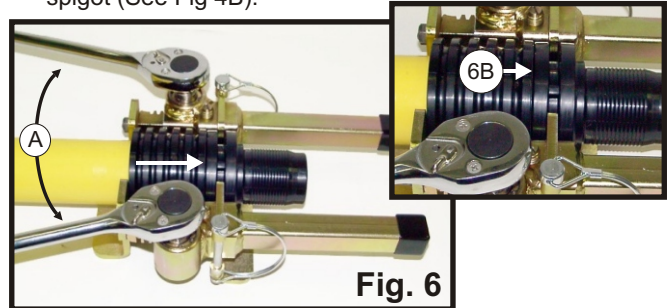

Fig. 6
- A) Reverse the direction of ratchets and advance the completion sleeve over the pipe and spigot by operating the ratchet. Stop sleeve advancement when the sleeve is fully inserted over the spigot (See "B" in Fig. 6)